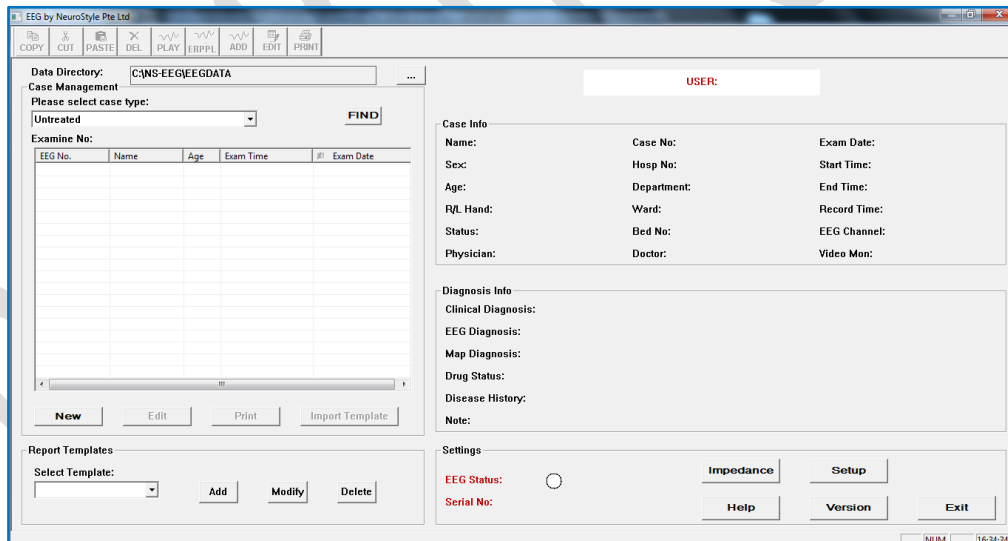

Fig 2-1 Main Interface
- 1 Double click icon **"NS-EEG.exe"** on the desktop to open the main interface of the software, as shown in Fig 2-1.